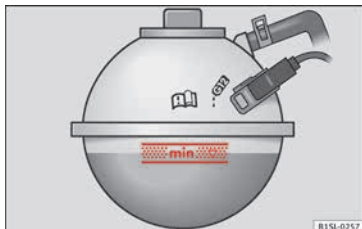

Fig. 245 In the engine compartment: Marking on coolant expansion tank
- When the engine is cold, check the coolant level using the side marking on the expansion tank » » » Fig. 245.
- The engine coolant level should be between the marks on the coolant expansion tank » » » Fig. 245. **Do not exceed the top level of the marked area** » » » ⚠.
- Only top up coolant to the top level of the marked area » Fig. 245. Otherwise the excess coolant will be forced out of the cooling system when the engine is hot, causing damage.